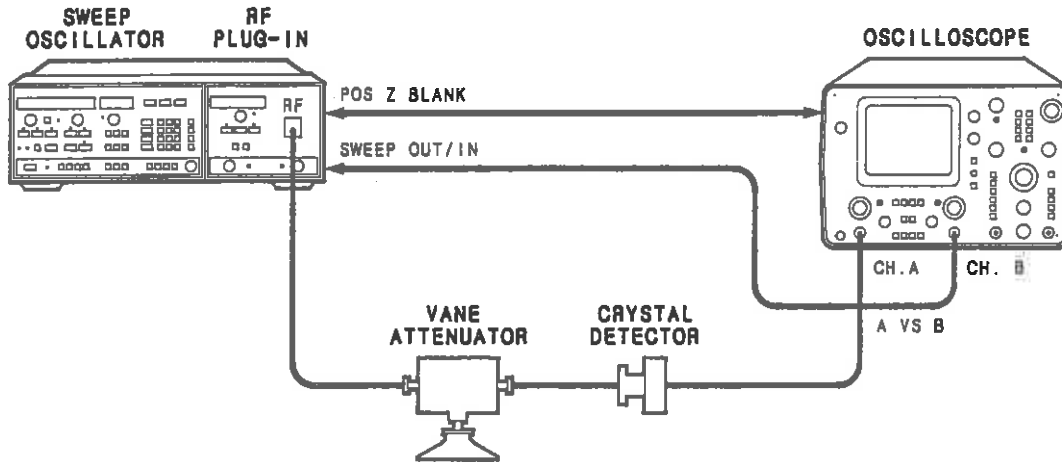

Figure 5-24. On/Off Ratio Adjustment Setup
1. Connect the equipment as shown in figure 5-24.